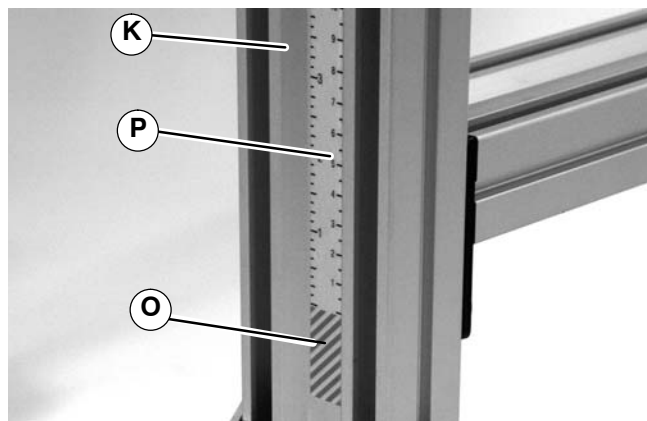
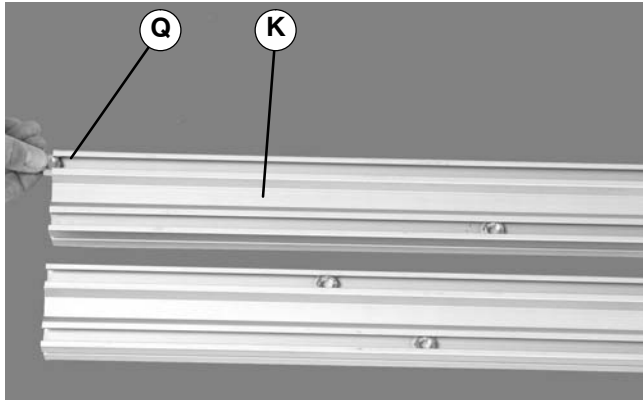
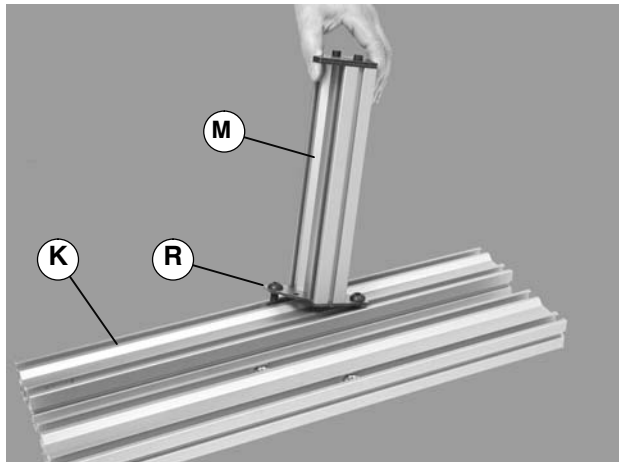

Figure 3
Figure 4
Figure 5
NOTE: Stand legs (K of Figure 3) are equipped with a height sticker (P). Assemble stand legs with the sticker on the outside and the red warning area (O) at the bottom of the legs.
3. On the side opposite height sticker (P of Figure 3) install one (1) hex nut (Q of Figure 4) into each inside stand leg (K) t-slot.
4. Attach crossmember (M of Figure 5) to stand leg (K) with button screws (R). Do not tighten.
5. Repeat step 4 for opposite stand leg. Make sure to locate the red warning area (P of Figure 3) on the same ends of stand legs (K of Figure 5).